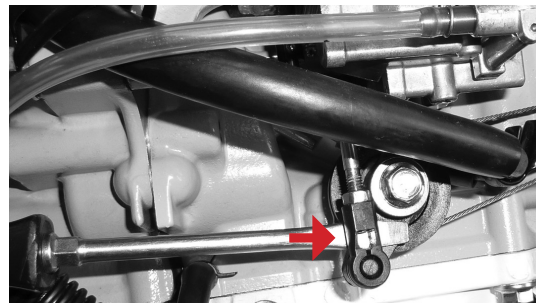

Figure 5
• Fig. 5: Use screwdriver to separate lower throttle rod fitting from throttle cam.